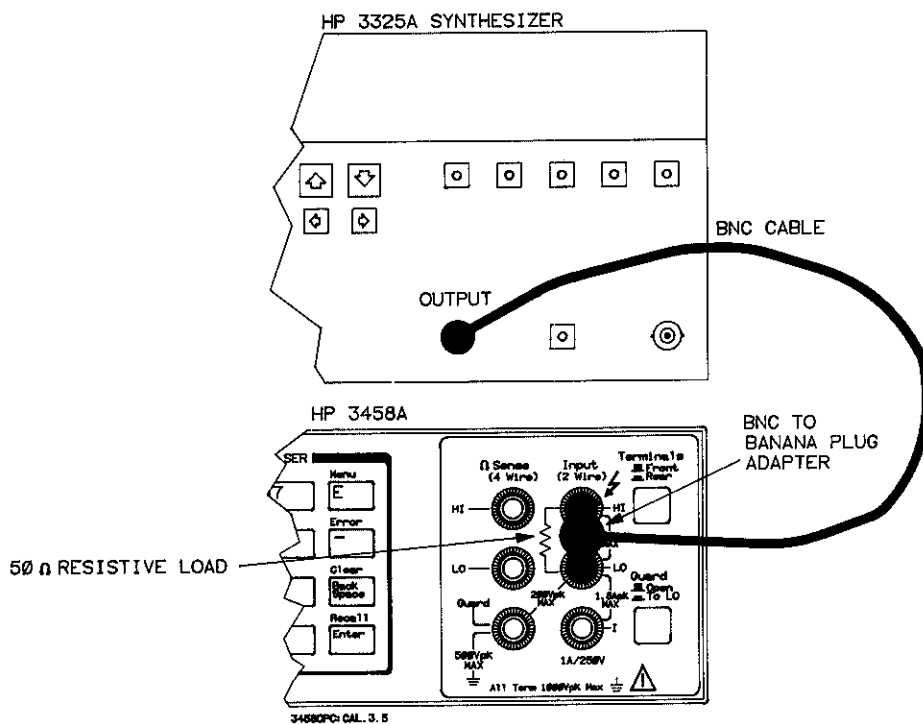

Figure 3-5. AC Adjustment Connections
10. Disconnect the thermal converter and connect the synthesizer, 50 Ω resistive load, and multimeter as shown in Figure 3-5.